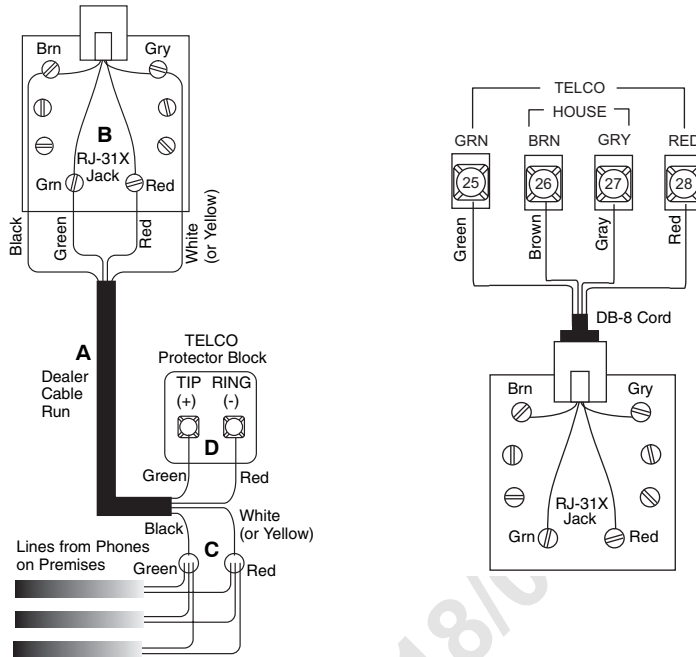

Figure 26. Wiring an RJ-31X Jack and DB-8 Cord to the Panel
1. Run a 4-conductor cable from the TELCO protector block to the jack location (see A in Figure 26).
2. Connect one end of the cable to the jack (see B in Figure 26).
3. At the TELCO protector block, remove the premises phone lines from the block and splice them to the black and white (or yellow) wires of the 4-conductor cable (see C in Figure 26).
4. Connect the green and red wires from the 4-conductor cable to the TIP (+) and RING (-) posts on the block (see D in Figure 26).
- **To connect the DB-8 cord to the panel terminals and RJ-31X jack (see Figure 26):**